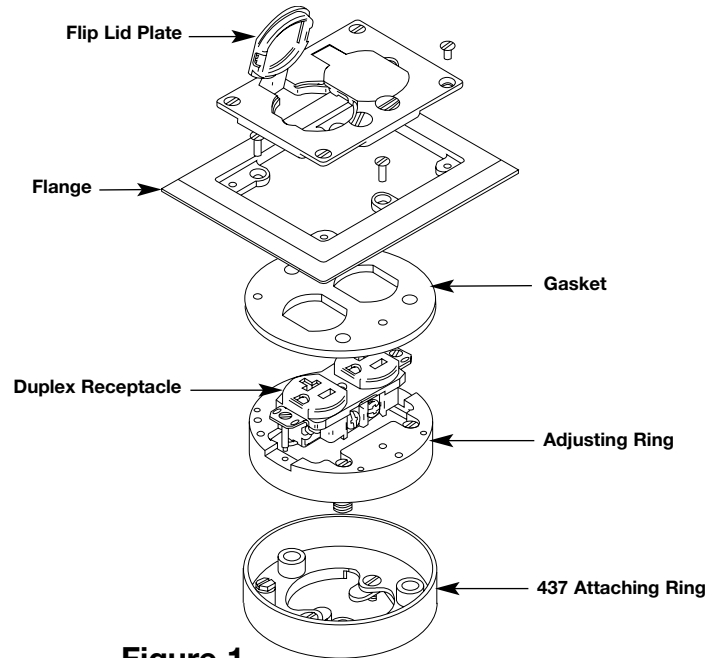

Figure 1
9. **For S165B:** Attach flip lid plate to flange with four #8 flat head brass screws (see Figure 1).